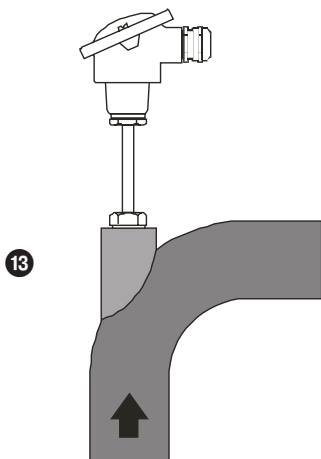
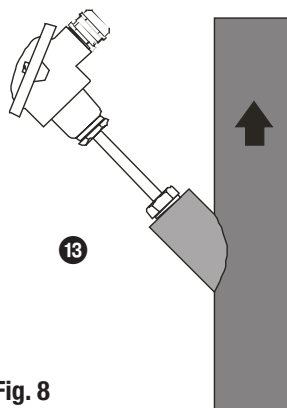

Fig. 7
Fig. 8
- To install the temperature sensor in a pipe, weld the elbow ⑬ onto it. This ensures that the temperature sensitive part ②, ⑥ of the temperature sensor is immersed in the fluid against the flow direction **Fig. 7 and Fig. 8**